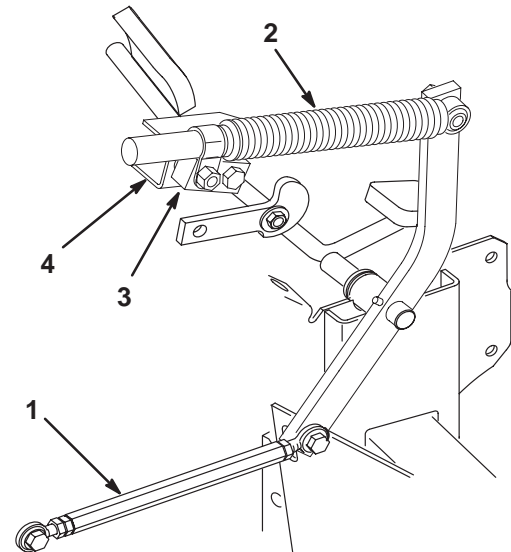

Figure 58
2. Loosen the jam nuts on each end of the traction rod (Fig. 58).
2. Loosen the locknut securing the damper pivot to the damper bracket (Fig. 58).